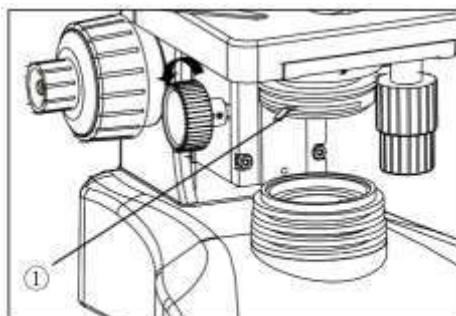

Fig.20
3.2.4 Adjusting the center and height of the condenser (Fig.20)
3.2.5 Adjusting the aperture diaphragm (Fig.20, 21)